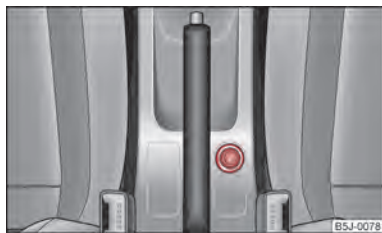

Fig. 61 Centre console: Cigarette lighter
- Press in the button of the cigarette lighter ⇒ fig. 61.